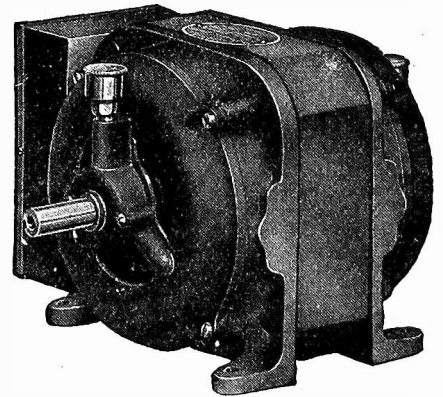

FIG. 714
(3)—A synchronous motor is best, provided that both the transmitter and the receiver are on the same power system. If they are on different systems an induction motor should be used at the receiving end. Such a motor is illustrated in Fig. 714.